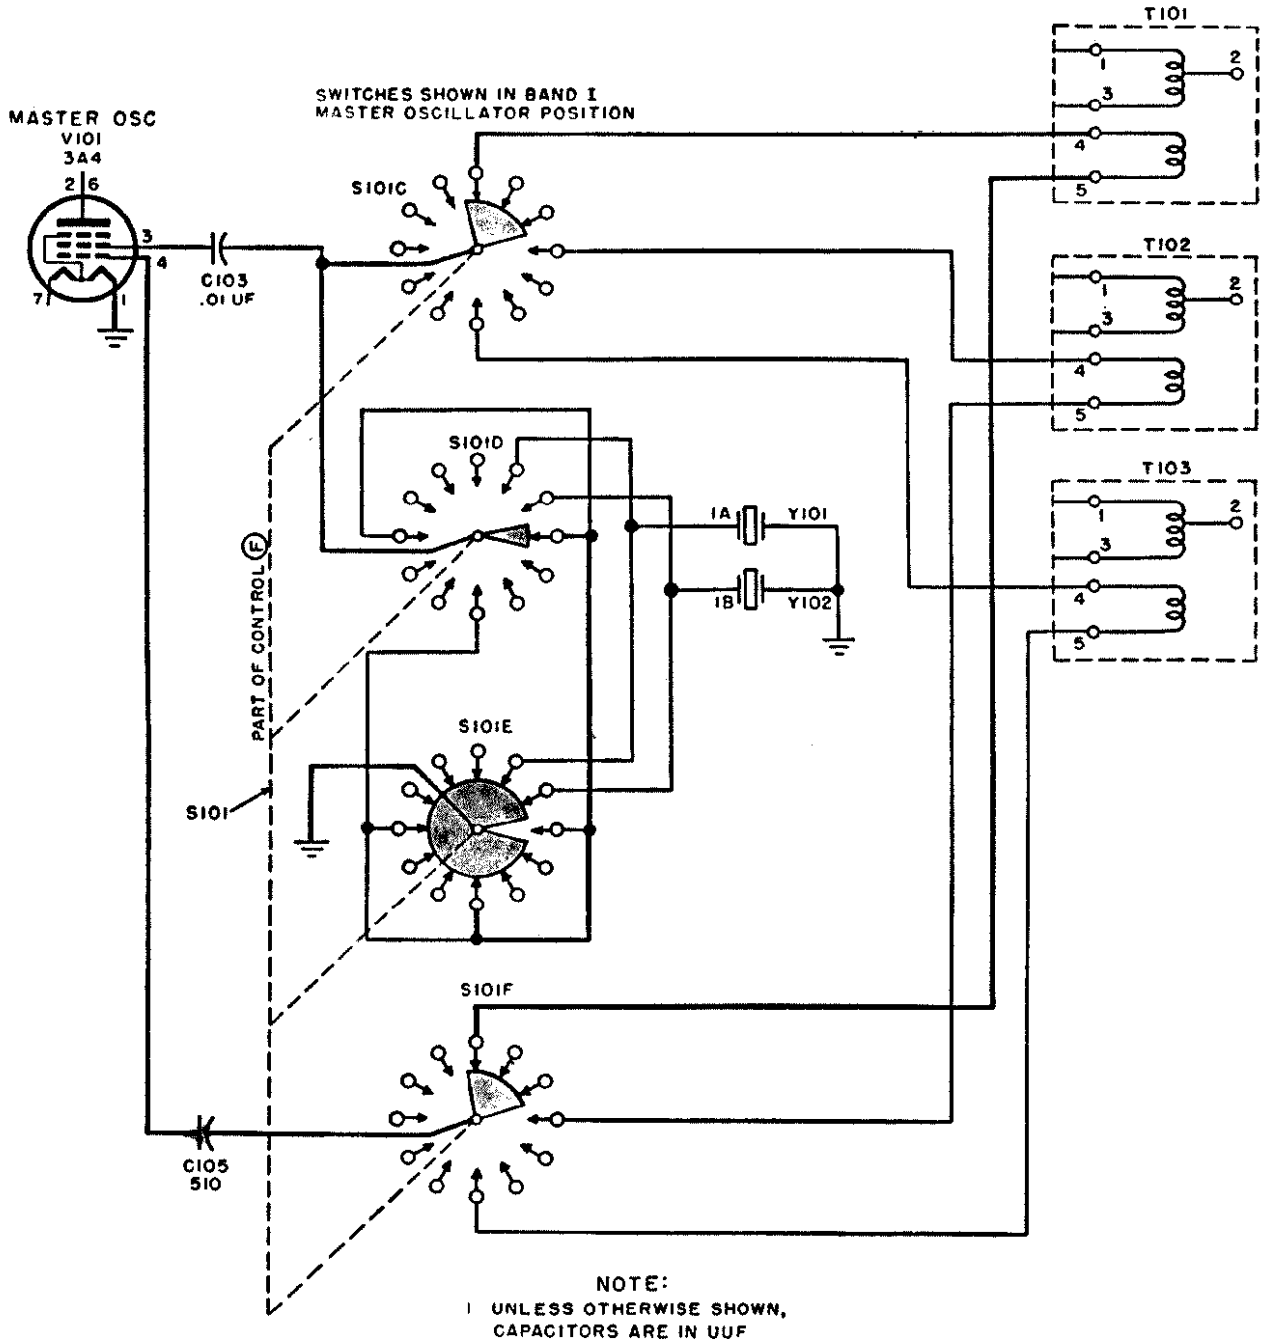

Figure 69. Master oscillator switch sections S101C, D, E, and F.
- (3) S101C (fig. 69). Section C of S101 selects the proper grid circuit coil for the frequency selected. This is done in conjunction with switches S101D, S101E, and S101F which connect the coil selected to the grid by capacitor C105. Since the entire bank of switches is ganged, the grid coil is automatically connected to the grid circuit. By following the weighted line, starting at the signal grid of V101, the entire
- (4) S101D. Section D of S101 selects, during crystal operation, the proper crystal to be used for the frequency desired. Section D also connects the grid coil to ground through section E, as shown in figure 69.
- (5) S101E. The rotor of section E is permanently connected to ground and serves as the actual ground connection for the coil selected. It also shorts out all or any crystals that are not in use.
- (6) S101F. Section F of S101 connects the selected coil to the grid of tube V101 through capacitor C105.